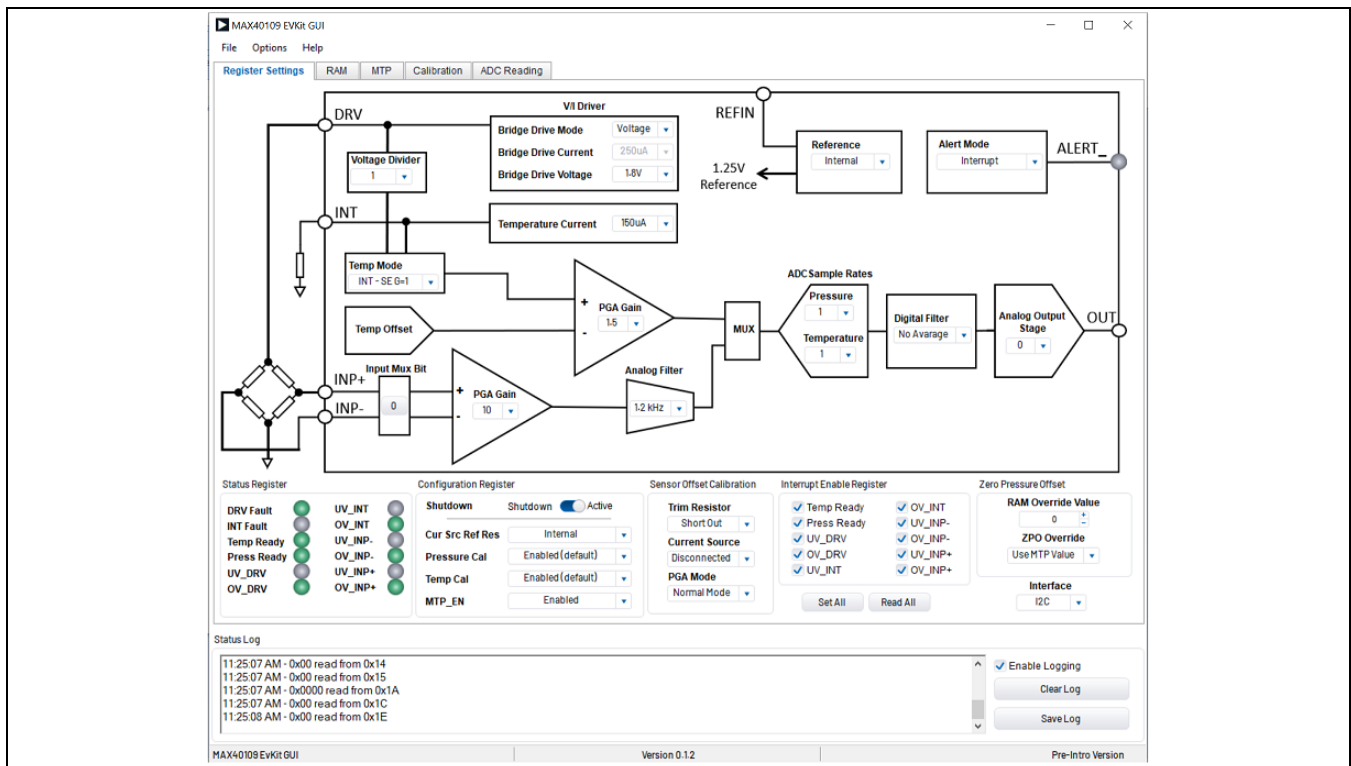

Figure 1. MAX40109 EV System GUI Main Window (Register Setting Tab)
8. Start the MAX40109 GUI as shown in Figure 1.
9. Start the MAX40109 GUI as shown in Figure 1.
The **Register Settings** tab (Figure 1) displays the control of the frequently used RAM registers. In addition, the user can select the digital interface from I²C, SPI, 1-Wire, and VDDHV. Once the interface is selected, a pop-up window appears to ensure the user places the appropriate jumper settings on the EV kit. The SPI and VDDHV selections should not be used for now and are intended for future use. Once the desired settings are configured, the user needs to click the **Set All** button.